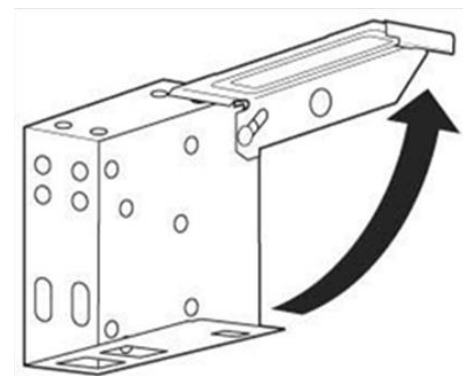

Figure 2.
Inside the accessories box you will find two (2) square brackets. On the inside will be labelled left and right LH/RH, these are the installation brackets. (See Figure 2.)